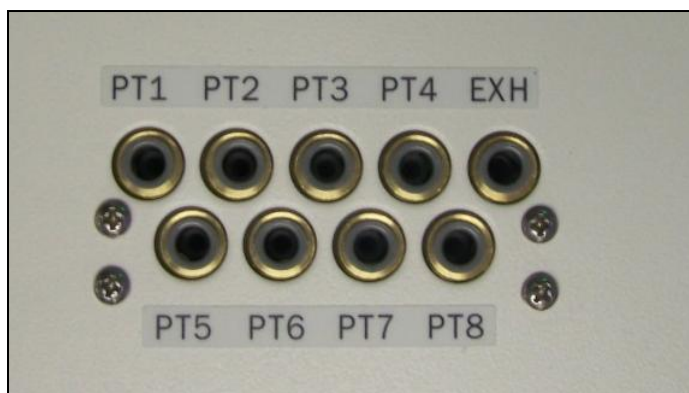

Figure 3.5
- Remove the four (4) mounting screws shown in figure 3.5 to detach the manifold.